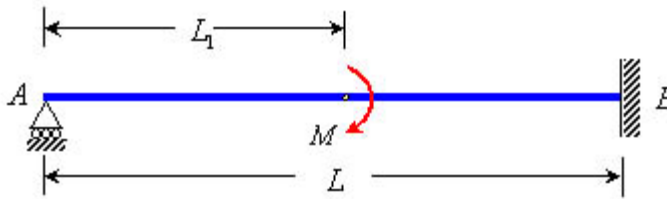

Figure T5.2
**T5.2** Determine the support reactions of the propped cantilever beam as shown in Figure T5.2. Use moment area method or conjugate beam method.